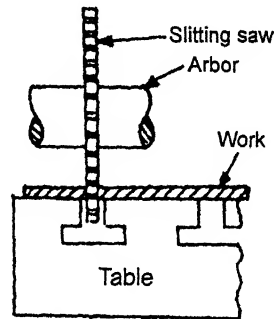

Fig. 10.57. Saw milling.
**10. Saw milling.** Refer to Fig. 10.57. It is an operation of producing narrow grooves and slots on the workpiece. A slitting saw is used for saw milling.